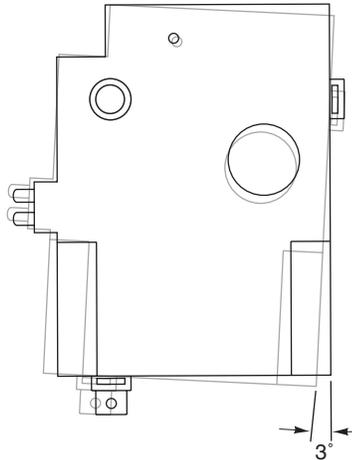

Figure-4 CW Mounting.
5. Rotate controller CCW about three degrees off centerline of VAV terminal and tighten output shaft set screws to 60-70 in-lb (6.8-7.9 N-m). See Figure-4.